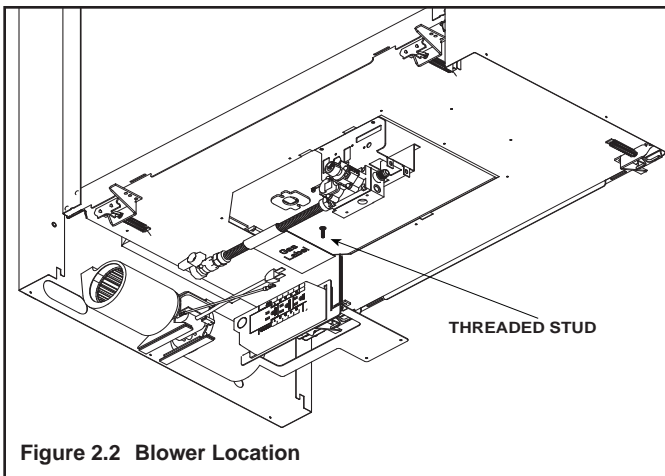

Figure 2.2 Blower Location
1. Place blower in appliance as shown in Figure 2.2.
3. Attach temperature sensor switch by placing the switch onto the threaded stud indicated in Figure 2.2 and then threading the wing nut onto the stud.